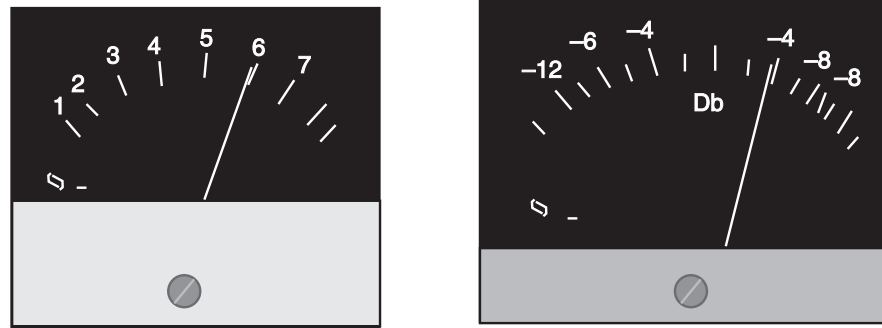

Fig. 9.11
**Mechanical Meter:** Generally two types of Mechanical meter have been used. Fig. 9.11.